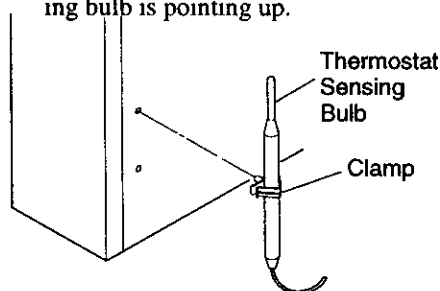

Figure 5 - Attaching Thermostat Sensing Bulb
2. Place clamp on thermostat sensing bulb as shown in Figure 5. Clamp is provided in hardware package.
3. Snap clamp into upper mounting hole as shown in Figure 5. Mounting hole is located on lower left edge on back of heater. Make sure the thermostat sensing bulb is pointing up.